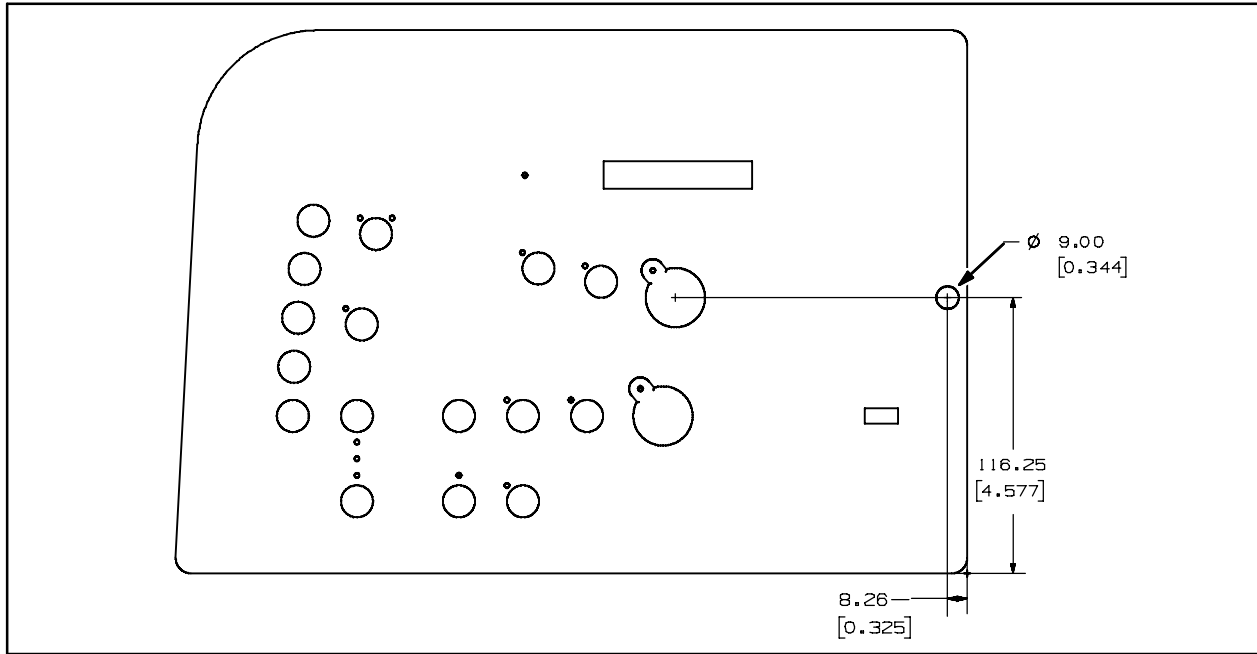

FIG. 8
37. Drill a 11/32" (0.344") hole through the instrument panel assembly. Refer to Fig. 8.
41. Insert the *ec-H20* warning light into the 11/32" (0.344") hole. Refer to Fig. 8.